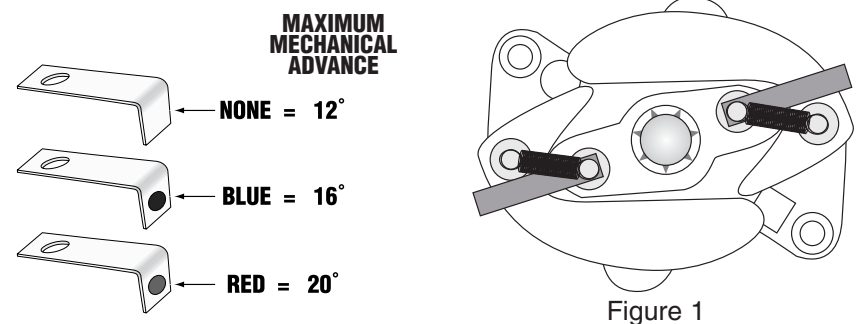

Figure 1
4. Install one advance limiter on each inner advance pin. (See Figure 1)